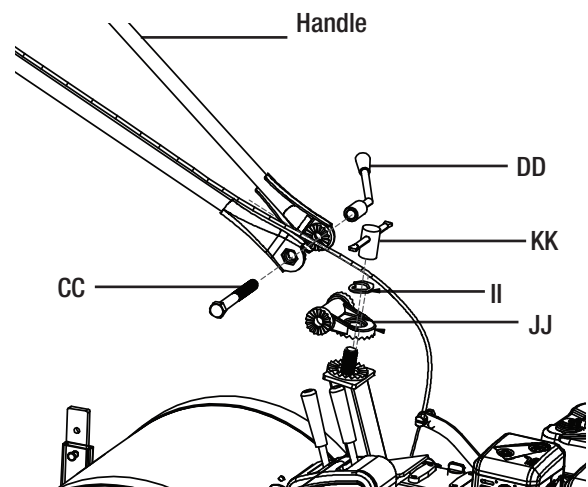

Figure 1-3
- Insert the armrest (JJ) to the bolt seated on the tiller frame. Then insert the armrest spring washer (II) and hand tighten with handle lock (KK).
- Align handle openings over the armrest openings and insert bolt M16x140 (CC) through the handle and armrest. Use the handle lever lock (DD) to secure on the opposite side. Use a wrench on the M16x149 bolt (CC) to hold the bolt in place while you hand tighten the handle lever lock (DD) on the opposite side. See Figure 1-3.